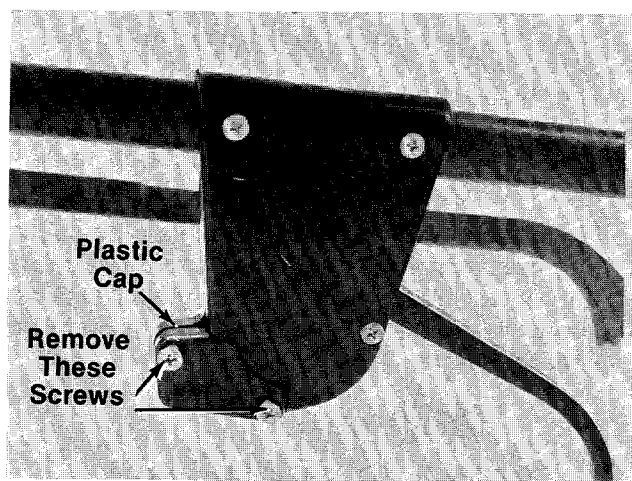

FIGURE 7.
13. Remove the two screws located beneath the clutch control housing on the upper handle as shown in figure 7. A Phillips screwdriver is required. Remove the plastic cap.